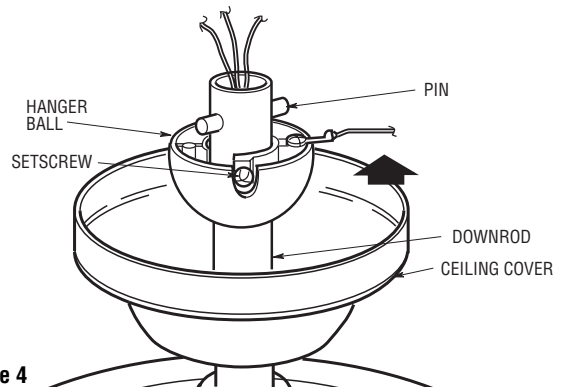

Figure 4
5. Reinstall the hanger ball (Figure 4) on the downrod as follows. Route the motor leads through the downrod. Position the pin through the two holes in the downrod and align the ball so the pin is captured in the groove in the top of the hanger ball. Pull the hanger ball up tight against the pin and securely tighten the setscrew in the hanger ball. A loose setscrew could create fan wobble.